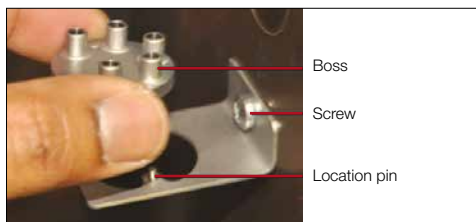

Figure 4. Attaching the Deans' switch.
- Mount the SilFlow Deans' switch to the oven bracket with the guidance of the locator pins ensuring it sits on the bracket firmly (Figure 4).